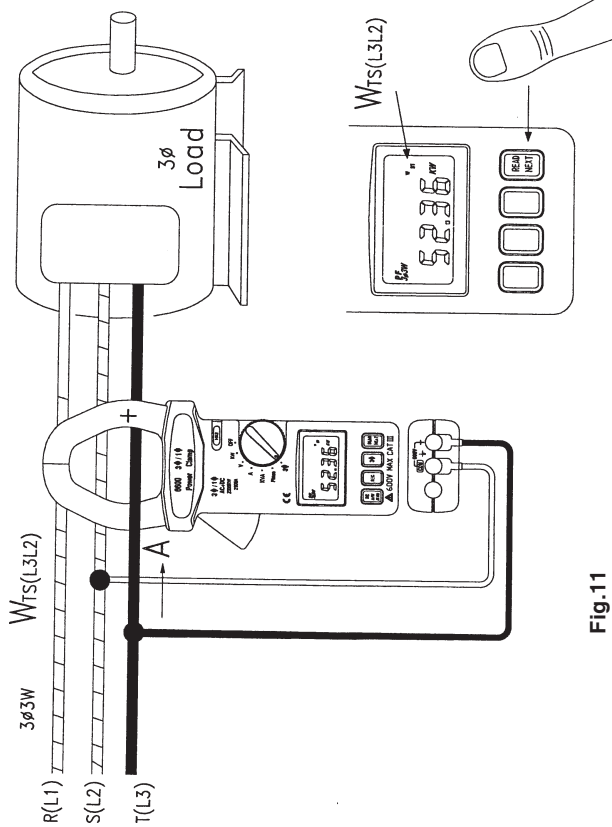

Fig.11
- 3.8.3. Secondly, measure W_S (or W_{L2}) (refer to figure 11)